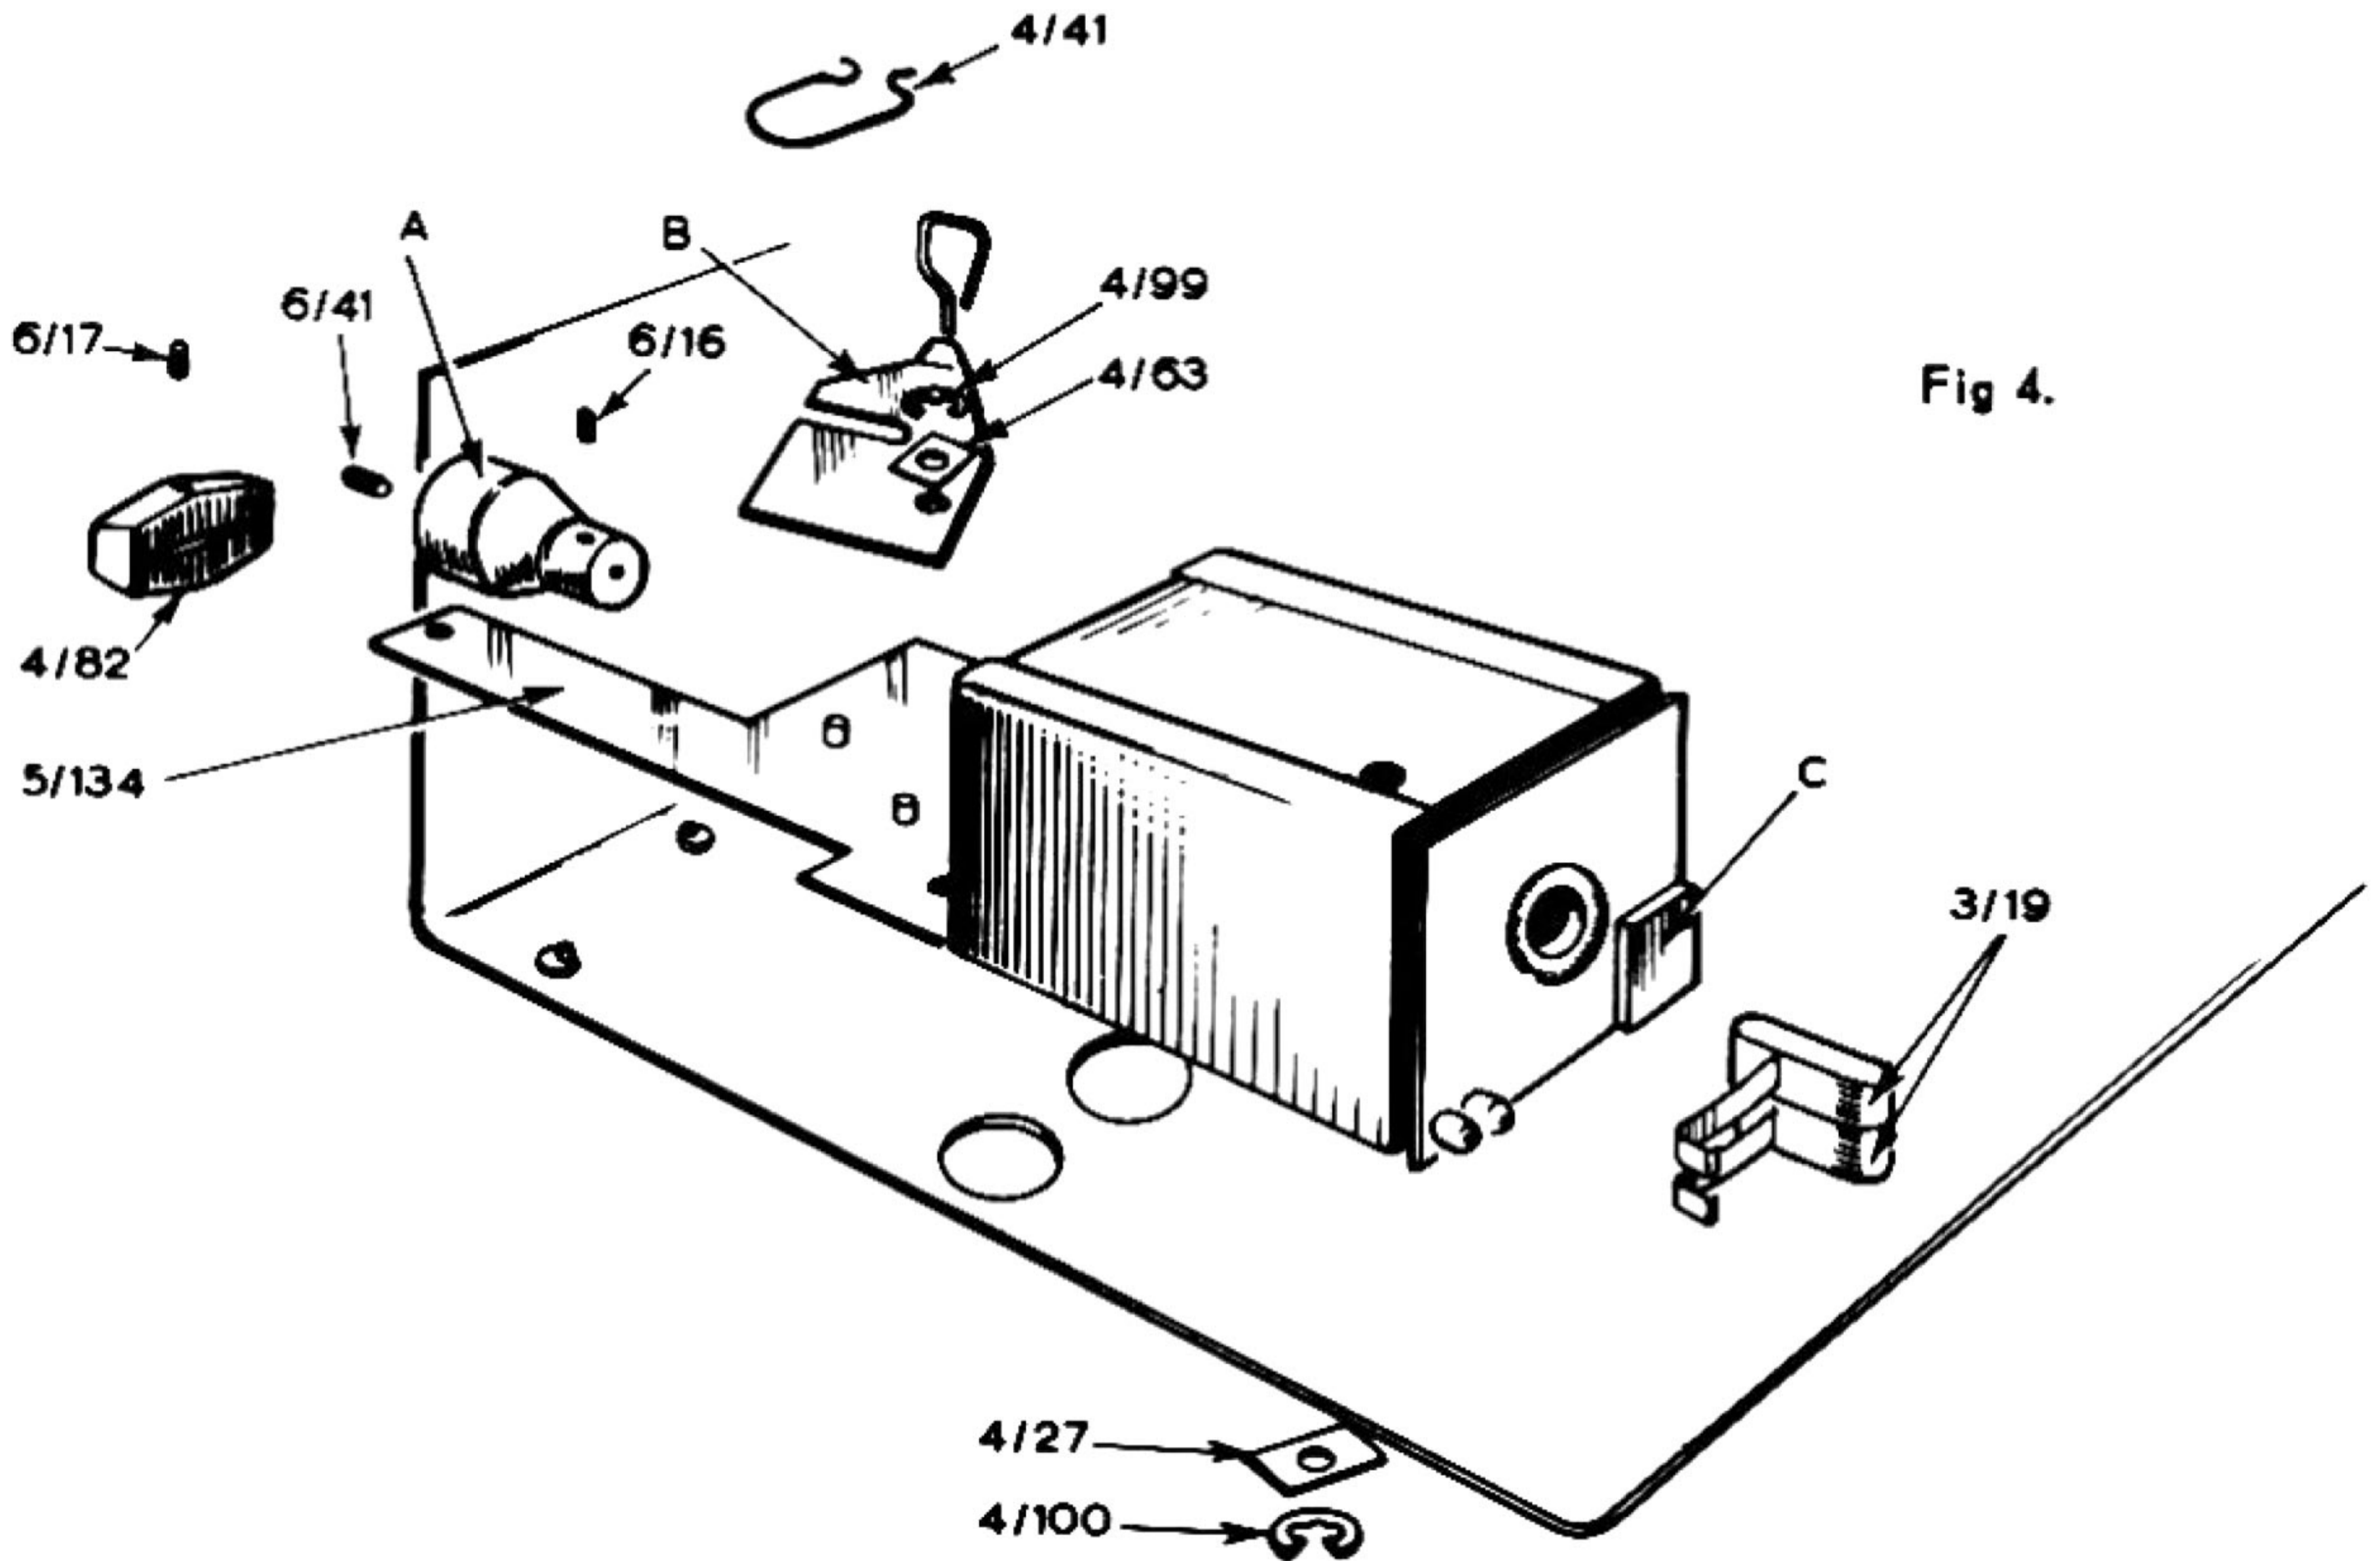

Fig 4.
1. Remove the Head cover assy. (23) 5/156 & screws 5/46.
8. Take off the motor pulley assy. (A), the fork plate sub-assy (B) and the circlip 4/99 & shim washer 4/63. Retain these and the shim washer for assembling with replacement motor (see Fig. 4).